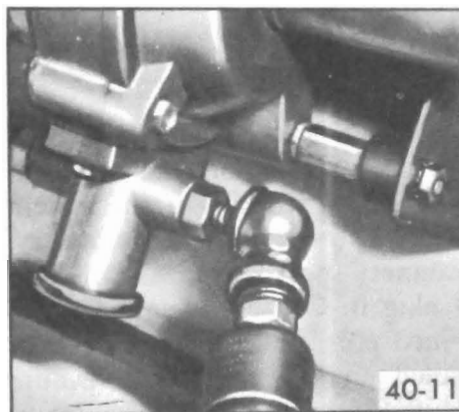

Figure 40-42 - Filling System Through Service Valve
3. Inflate system through service valve to maximum available pressure. See Figure 40-42.
2. Inflate system through service valve to maximum available pressure. See Figure 40-42.